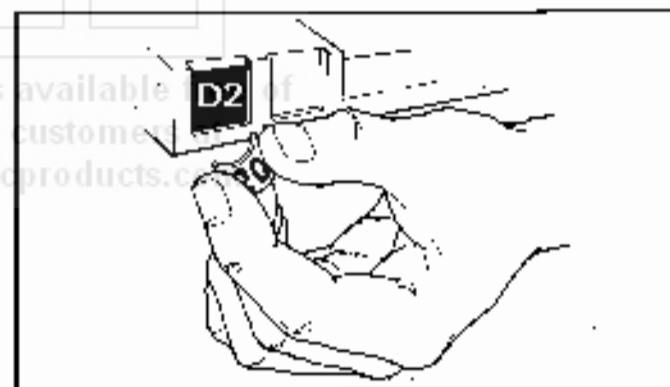

Figure 9. INSTALLING PRICE TABS.
12. INSTALL PROPER PRICE TABS into price tab holder for each selection in the main product area. (See Figure 9).